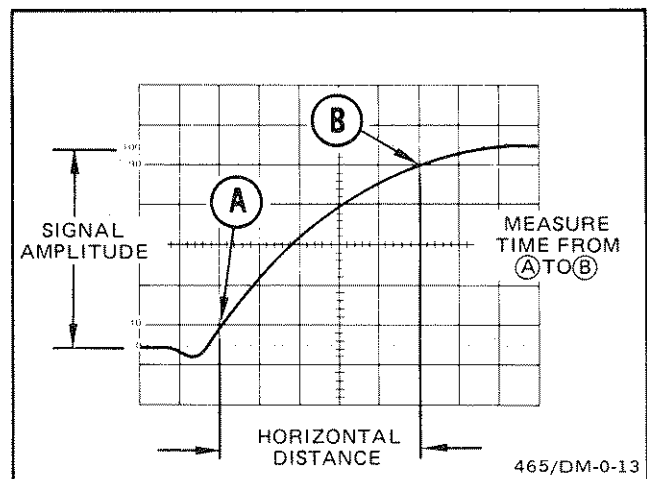

Figure 16. Rise time.
Rise-time measurements use the same methods as time duration, except that the measurements are made between the 10% and 90% points on the leading edge of the waveform (see Figure 16). Fall time is measured between the 90% and 10% points on the trailing edge of the waveform.
4. Adjust vertical positioning so that the zero reference of the waveform touches the 0% graticule line and the top of the waveform touches the 100% graticule line (see Figure 16).
6. Horizontally position the display so the 10% point on the waveform intersects the second vertical graticule line (see Figure 16, Point A).
**EXAMPLE:** The horizontal distance between the 10% and 90% points is 5 divisions (see Figure 16), and the SEC/DIV switch is set to 1  $\mu\text{s}$ . The X10 magnifier knob is pushed in (1X magnification).